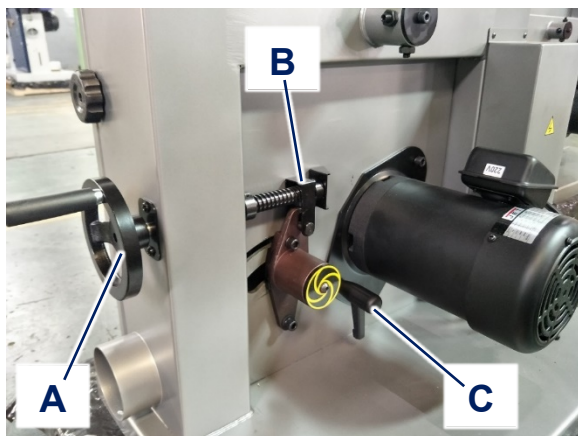

Figure 7-23
2. Turn the handwheel (A, Figure 7-23) to loosen the drive belts (D, Figure 7.21). This will push the intermediate pulley (B, Figure 7-23) inboard.
3. Loosen the lock handle (C, Figure 7-23) and lift the motor to loosen the vertical drive belt (C, Figure 7.21) and then tighten the lock handle to hold the motor in the up position.
7. Loosen the lock handle (C, Figure 7-23) and lower the motor to tighten the vertical drive belt (C, Figure 7.21).
2. Loosen the lock handle (C, Figure 7-23) and lift the motor to loosen the vertical drive belt (C, Figure 7.21) and then tighten the lock handle to hold the motor in the up position.
6. Turn the handwheel (A, Figure 7-23) to tighten the drive belts (D, Figure 7.21). This will pull the intermediate pulley (B, Figure 7-23) outboard.